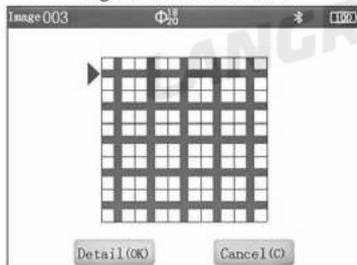

Figure 3.21 Image Scan to View Scan Position Interface
2. Entering the graphic display interface of the image scan data, it first displays the summary of all current measurements. The interface is shown in Figure 3.21. The user must first select the scan position to be viewed by pressing the direction key, then press [OK] to enter the graphic data viewing interface of the selected scan position.